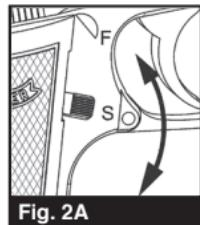

Fig. 2A
- Push the safety down until it points at the "S" and covers the red dot. (**Fig. 2A**) **The safety is not "ON SAFE" unless it is pushed all the way down and the RED dot is NOT showing.**